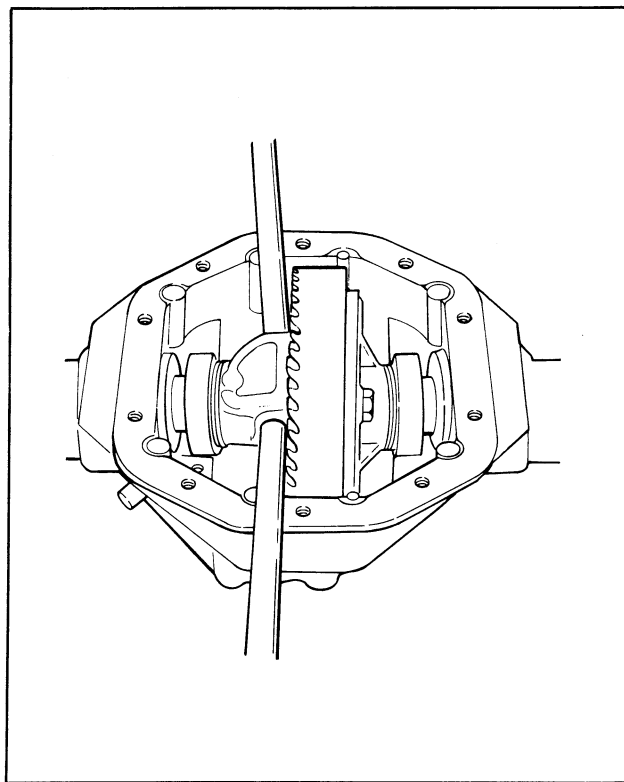

Figure 22 – Prying Out Case
- h. Pry carrier from differential case assembly with two pry bars, Figure 22.